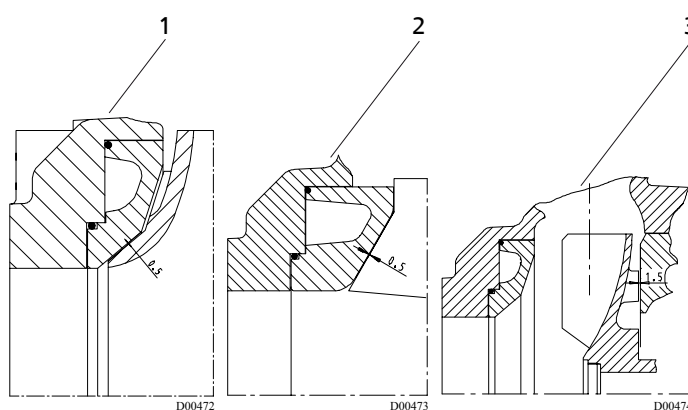

Fig. 22: KWP clearance gaps
6. Re-adjust the gap between impeller and wear plate as per the corresponding table and Fig. 22 "KWP clearance gaps".